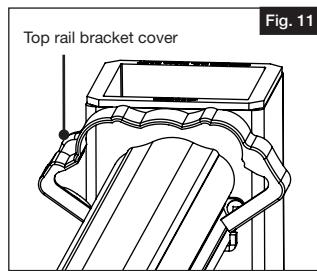
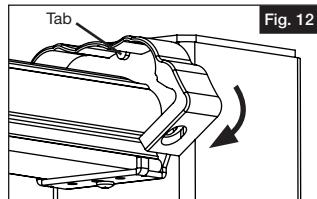

Fig. 11
Fig. 12
- b. Open the top rail bracket cover to allow it to wrap around the top rail (Fig. 11). While open, make sure the "tab" fits behind the rail and against the post (Fig. 12).
Predrill one side (outside of the stair rail installation) of the top rail bracket with  $\frac{5}{32}$ " drill bit. Hole should be oriented as shown, approximately  $\frac{3}{8}$ " in from the end of the bracket (Fig. 11). Drive #10 x 1" pan head square drive screw through bracket and rail. Do NOT overtighten.